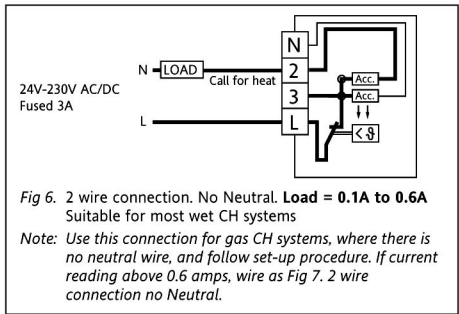

Fig 6. 2 wire connection. No Neutral. **Load = 0.1A to 0.6A**
Set up to be followed when wiring to Fig 6 only
The thermostat utilises a series resistor as a heat anticipator when wired in accordance with Fig 6 diagram.
- If reading is **BELOW 0.6A** wire as Fig 6 (isolate electric supply before rewiring)